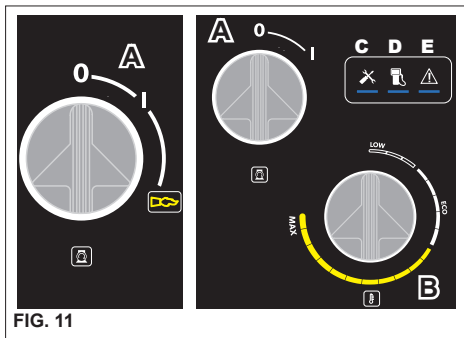

FIG. 11
**N.B. To reset the indicators, rotate the main switch "A" to the "0" position and then to the "I" position (fig.11).**
During use with hot water, keep away from the openings for fumes discharge (risk of burning). When you have finished using the "Hot Water or Steam Phase", turn the thermostat knob "B" to position '0' (fig.11), allow the appliance to cool down for approx. 3 minutes with the gun open.